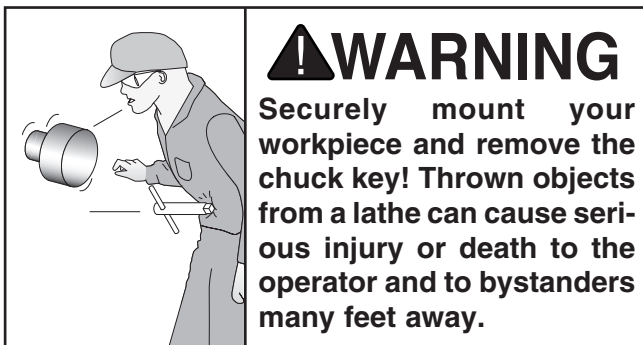

Figure 29. Loosening the jaw cap screws.
2. Remove the two cap screws that secure each top jaw, as shown in **Figure 29**, then remove the top jaw.